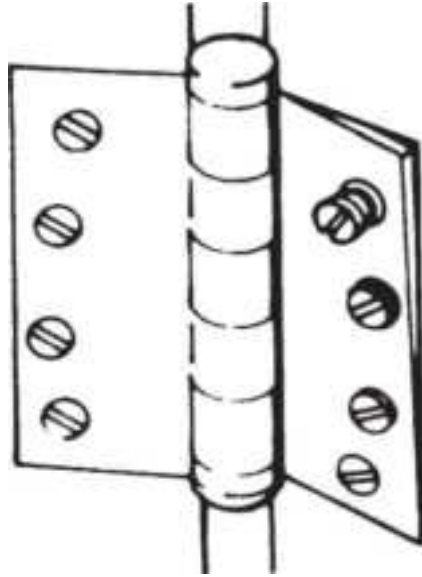

**Figure 13.5** Are the hinges loose?
- Are the hinges loose? Tighten the screws, filling holes if necessary, or rehang the door if the screws will not hold (Fig. 13.5 ).